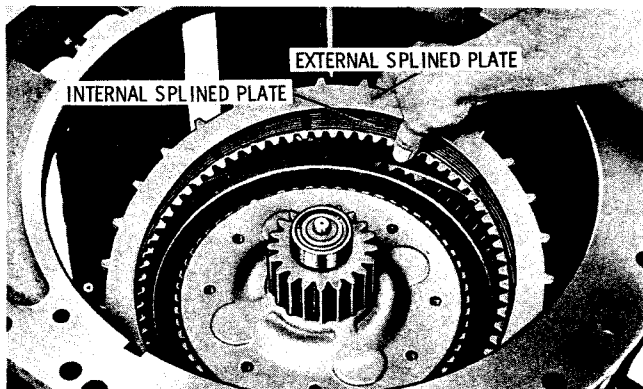

Fig. 7-14. Installing intermediate-range clutch plates
(14) Beginning with an internal-splined plate, alternately install three internal- and three external-splined, intermediate-range clutch plates (fig. 7-14).